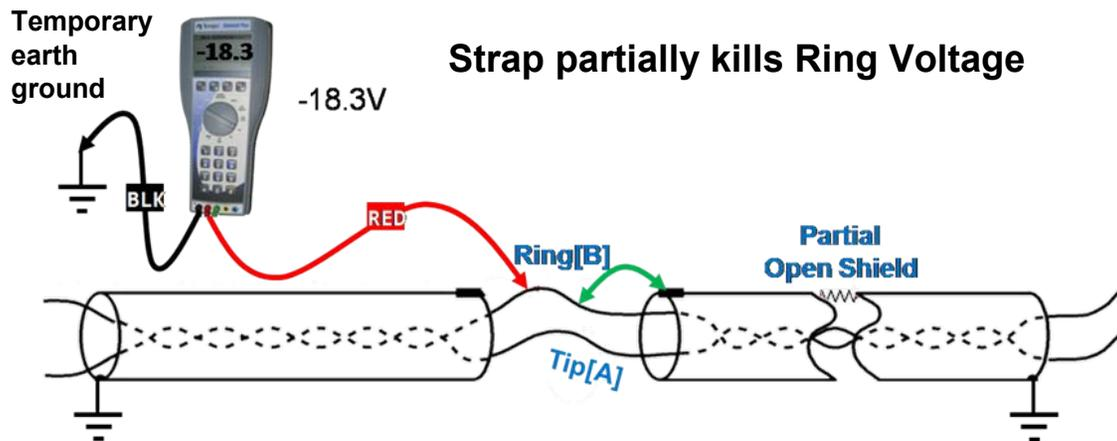

Figure KDT3
- If the strap **partially** kills the volts as shown in Figure KDT3, the shield is **partially open or there is a Shield-to-Earth fault**
- Using the drawing ISO1 on the previous page, **go to Pedestal #1**. Open the bond strap to isolate the incoming and outgoing cable shields. Perform the KnockDown test towards the DSLAM (see Figure KDT2) and then toward Pedestal #2 (see Figure KDT3).